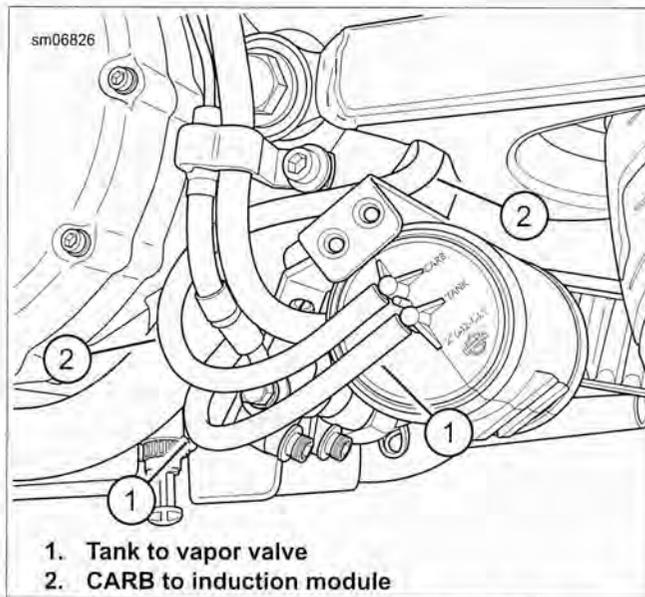

Figure 4-89. EVAP Canister and Hose Routing
1. See Figure 4-89. Connect the vapor valve-to-canister hose (1) to the canister lower fitting marked TANK and the canister-to-induction module purge hose (2) to the upper fitting labeled CARB.